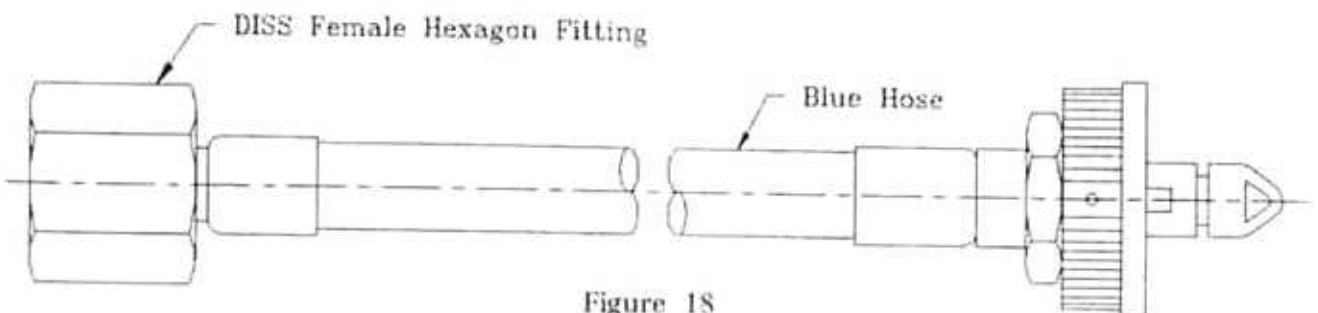
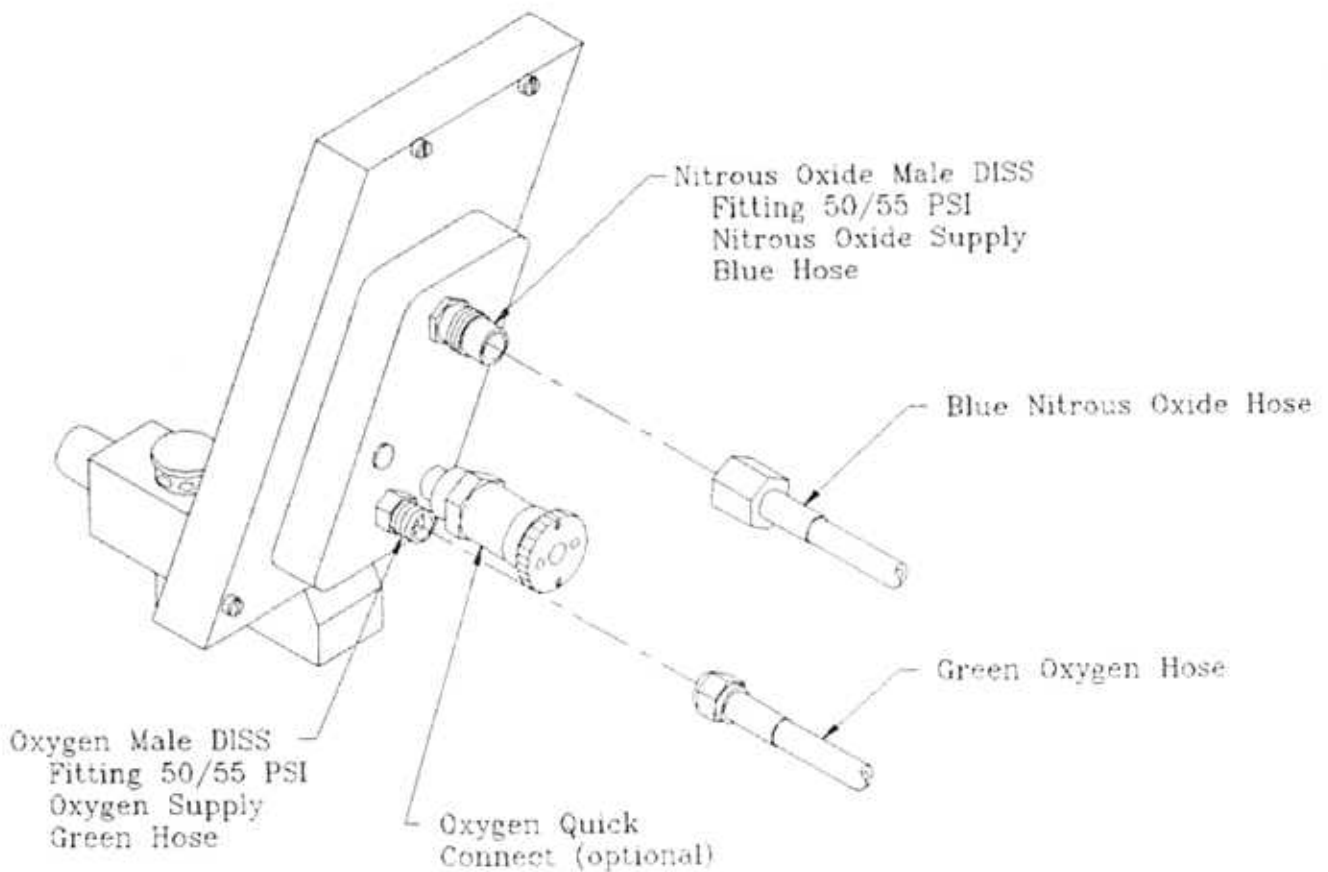

Figure 18
Figure 19
1. Connect DISS female hexagon fitting (see fig 18) of the nitrous oxide hose to male DISS fitting on the back of the analgesia head (see fig 19). Accomplish this connection by screwing female hexagon fitting onto male threaded fitting. Tighten to hand tight and then finish tighten with 7/8 open end wrench just enough to prevent leaks. **Do not over tighten.**
2. In the same fashion, connect the oxygen hose to the male oxygen fitting (see fig 19). Finish tightening the female hexagon fitting with an 11/16 open end wrench just enough to prevent leaks. **Do not over tighten.**
These hoses are designed to be used with portable units or DISS outlet stations. Connection to the cylinder mount will be made in the same manner as in Figures 19 & 22. Hoses are included with yoke blocks.